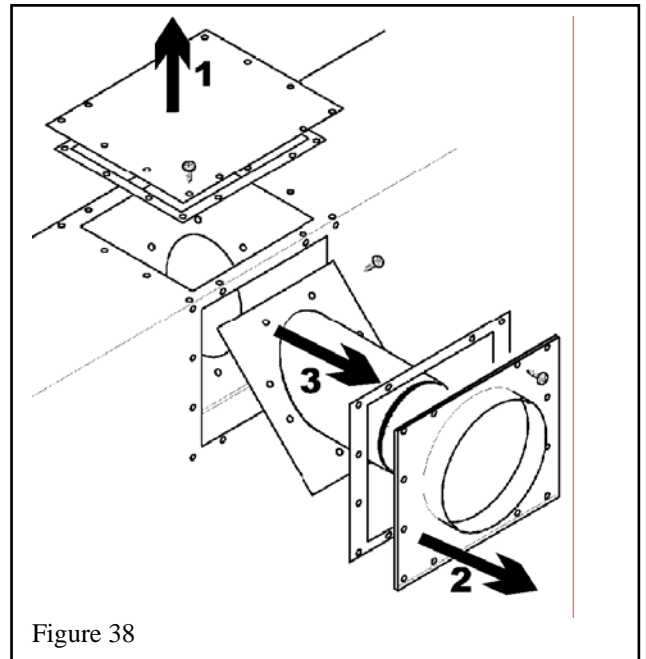

Figure 38
1. Remove the top plate and seal by unscrewing 12 screws. (See figure 38).
2. Remove the rear outer vent collar and seal by unscrewing 12 screws (See figure 38).
3. Remove the rear inner vent collar and seal by unscrewing 8 screws. (See figure 38).